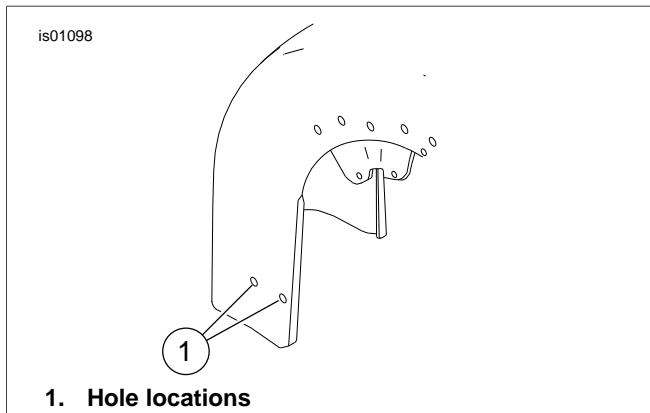

Figure 2. Clean Front Fender Skirt Installation
1. See Figure 2. Clean fender where fender skirt will be mounted (1) and cover that portion of fender with masking tape to protect painted surface during positioning of skirt and drilling of mounting holes.